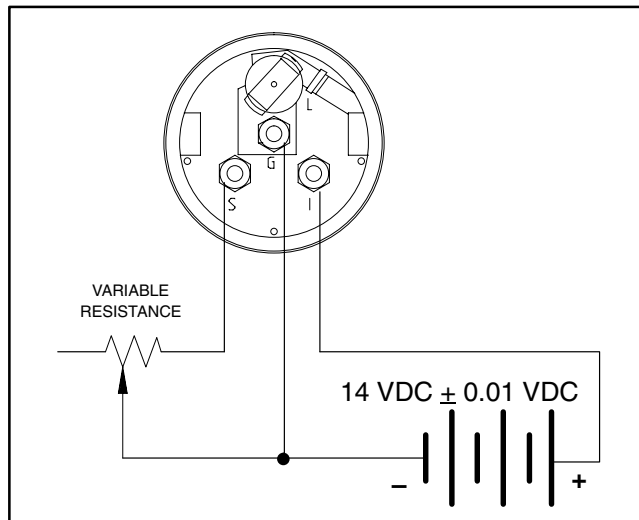

Figure 18
1. Make sure ignition switch is off. Connect temperature gauge to the variable resistance and DC voltage source (Fig. 18).